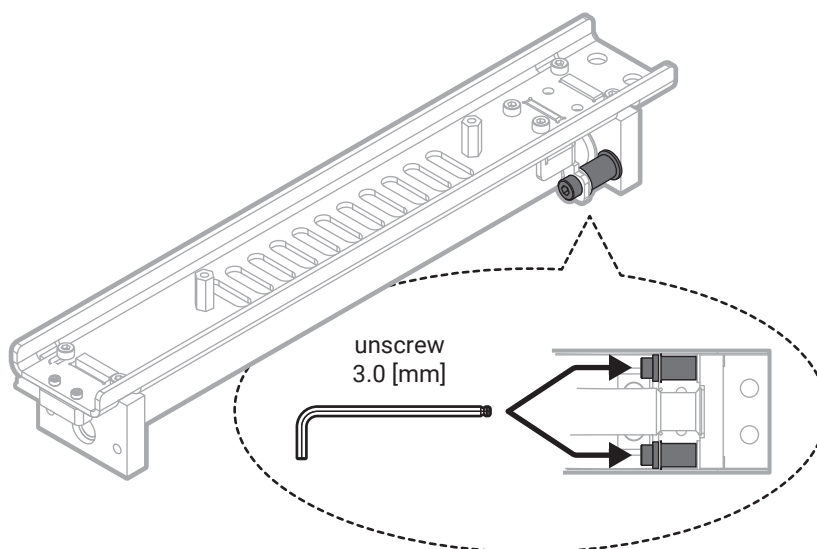

Fig. 8 Removing two roller tracing wheels.
18. Using the 3 mm allen key unscrew the two roller tracing wheels for the drive cord (fig. 8).